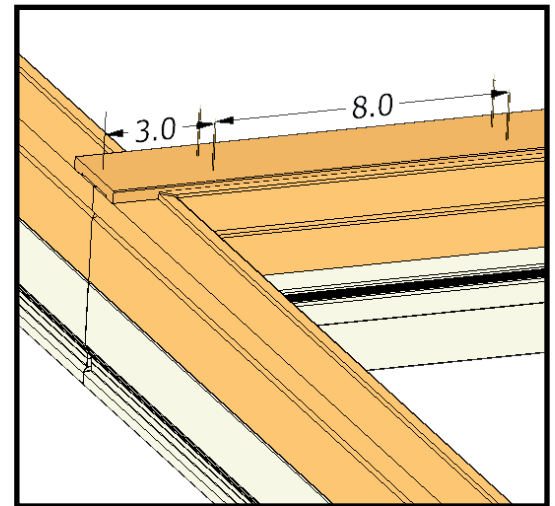

Figure 4
D. Measure, Cut, and nail inside mull cover, with finishing nails, 3" from frames edge and every 8"-10" down the length of the mull, then turn the unit clad side up (figure 4).